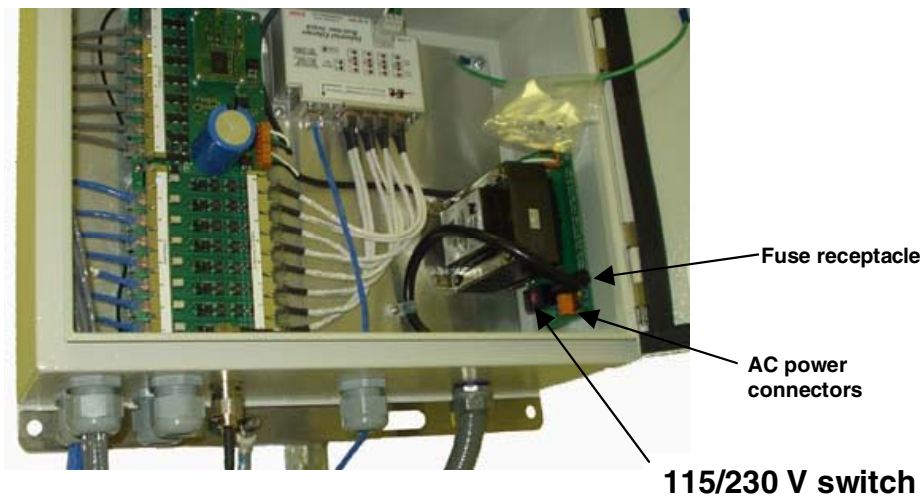

Figure 123: Location of 115-/230-volt switch
6. Set the 115-/230-volt switch in the CMM2 consistent with the power source. See Figure 123.